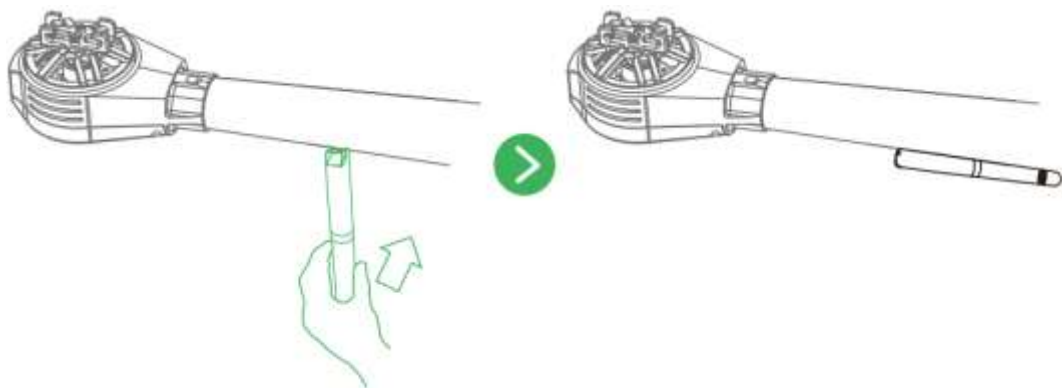

Figure 5-9
Step 2 Fold the antenna and make it close to the aircraft arm, as shown in Figure 5-9.